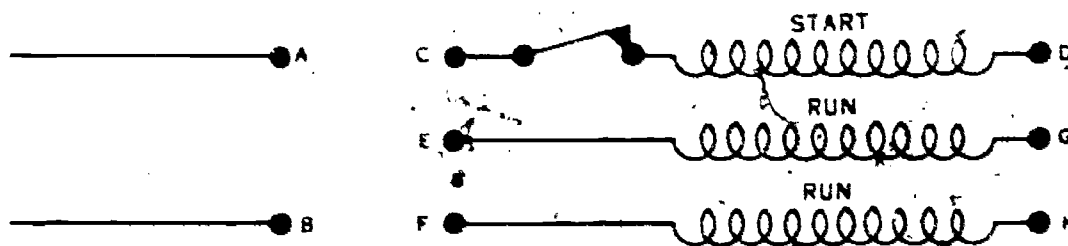

Figure 19
8. How would you connect the motor for high voltage operation? (Figure 19)